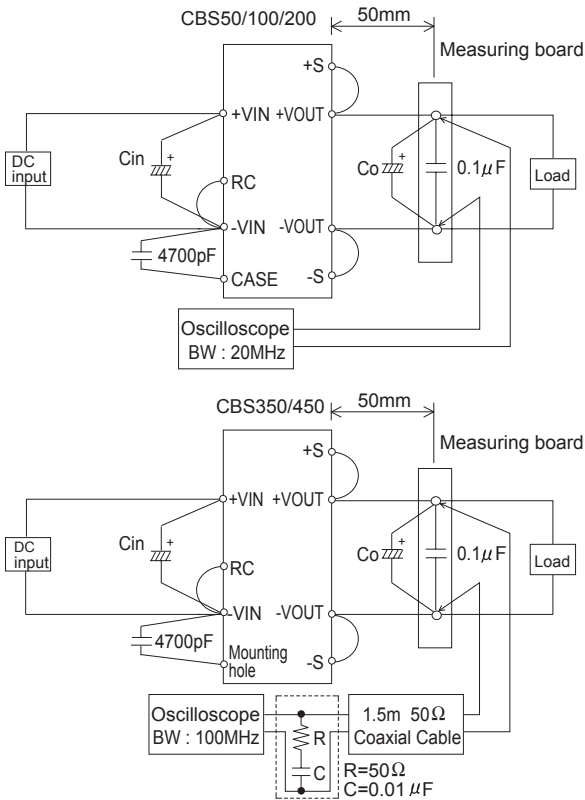

Fig.3.4 Method of Measuring Output Ripple and Ripple Noise
■ The specified ripple and ripple noise are measured by the method introduced in Fig. 3.4.